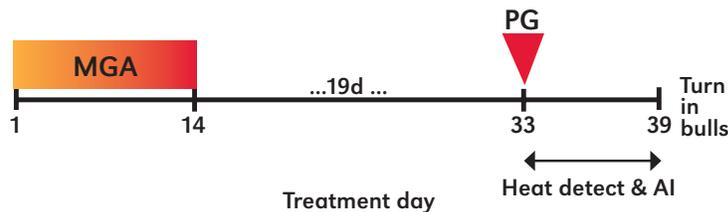

Figure 4. MGA-PG with HD.
**MGA-PG with HD** (Figure 4). In this procedure, MGA is fed 0.5 mg/head/day for 14 days. MGA mimics progesterone produced by the CL and does not allow heifers to come into estrus. Heifers will exhibit estrus two to five days after withdrawal of the MGA. The estrus that occurs immediately after MGA feeding is subfertile and heifers should not be inseminated on this estrus. These heifers will ovulate an aged, less fertile egg.